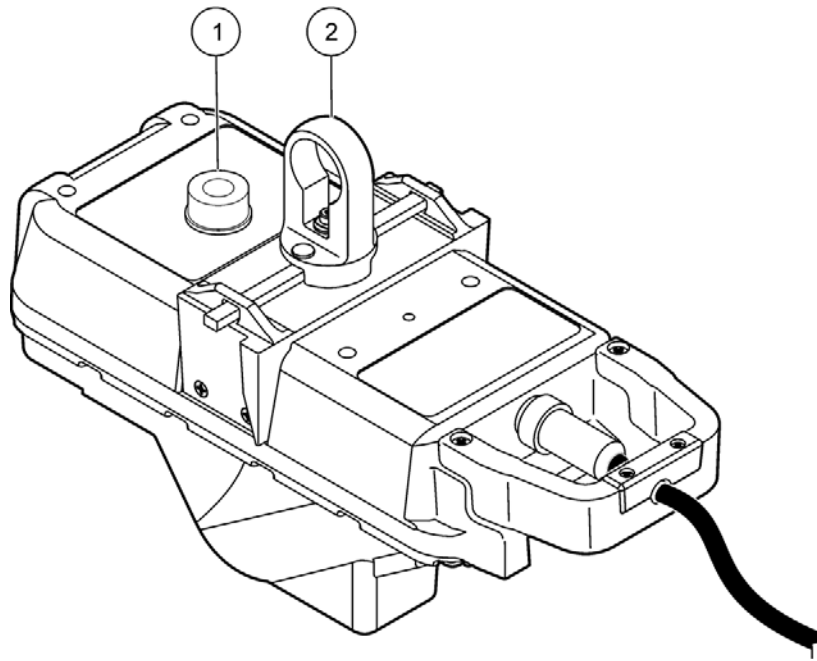

Figure 10 Horizontal alignment
The sensor fits in the frame in only one direction and locks in position when the bail on the sensor is turned (Figure 10). The sensor can be removed from the frame and installed without entering the manhole when the optional retrieval pole is used (see Accessories on page 33).
4. Turn the bail to lock the sensor on the frame (Figure 10).
1. Remove the paper backing from the bubble level and attach the level to the sensor (Figure 10 on page 21).